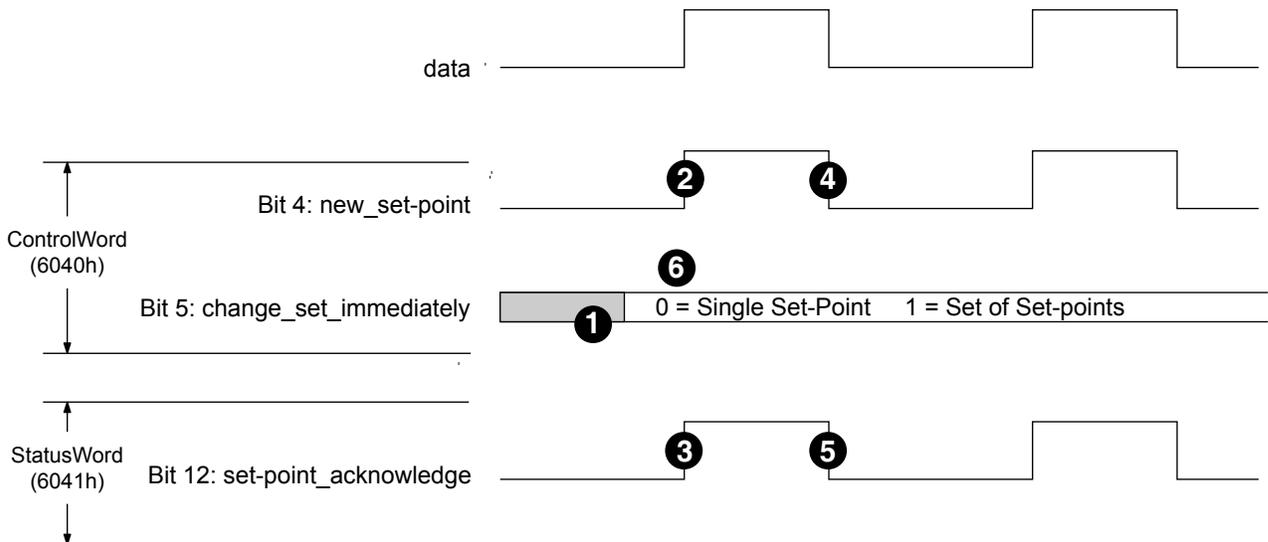
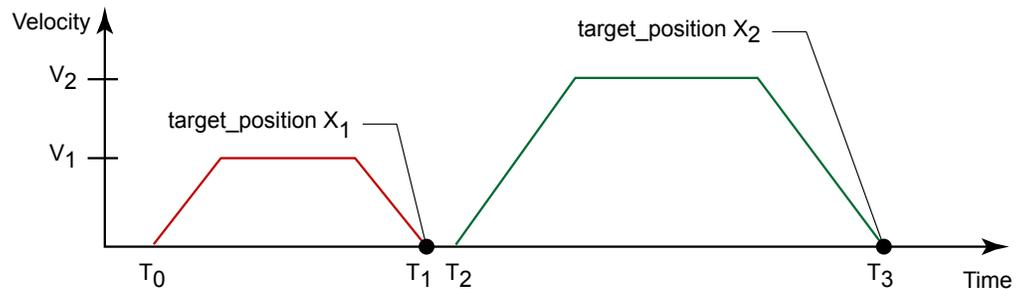
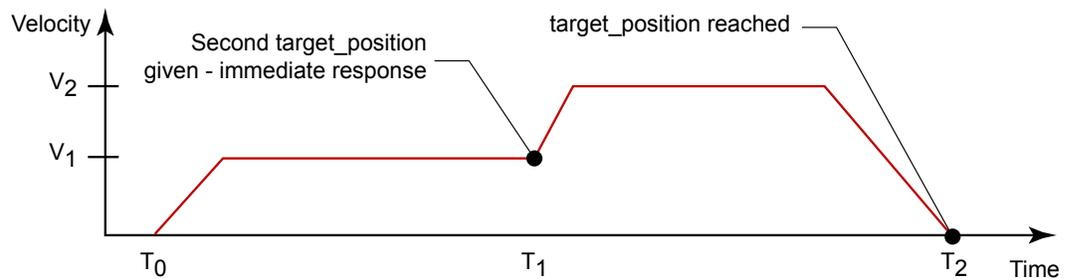

Figure 6.3: Set-point transmission from host (see table 6.14 for states)
Figure 6.4: Single set-point mode (move after a move) 6040h bit 5=0
Figure 6.5: Set of set-points (move on a move) 6040h bit 5=1
Figure 6.3, Figure 6.4 and Figure 6.5 illustrate the difference between the "set of set-points" mode and the "single set-point" mode. The initial status of the bit `change_set_immediately` in the controlword determines which mode is used. Trapezoidal moves are used as this is the only `motion_profile_type` the Lexium MDrive CANopen supports.
If the bit `change_set_immediately` is "0" (shaded area in Figure 6.3) a single set-point is expected by the drive (1). After data is applied to the drive, a host signals that the data is valid by changing the bit `new_setpoint` to "1" in the controlword (2). The drive responds with `setpoint_acknowledge` set to "1" in the statusword (3) after it recognized and buffered the new valid data. Now the host may release `new_setpoint` (4) and afterwards the drive signals with `setpoint_acknowledge` equal "0" its ability to accept new data again (5). In Figure 6.4 this mechanism results in a velocity of zero after ramping down in order to reach a `target_position X1` at  $T_1$ . After signalling to the host, that the set-point is reached like described above, the next `target_position X2` is processed at  $T_2$  and reached at  $T_3$ .
With `change_set_immediately` set to "1" (6), symbolized by the clear area in Figure 6.3, the host advises the drive to apply a new set-point immediately after reaching the last one. The relative timing of the other signals is unchanged. This behavior causes the drive to already process the next set-point `X2` and to keep its velocity when it reaches the `target_position X1` at  $T_1$ . Then drive moves immediately to the already calculated next `target_position X2`.